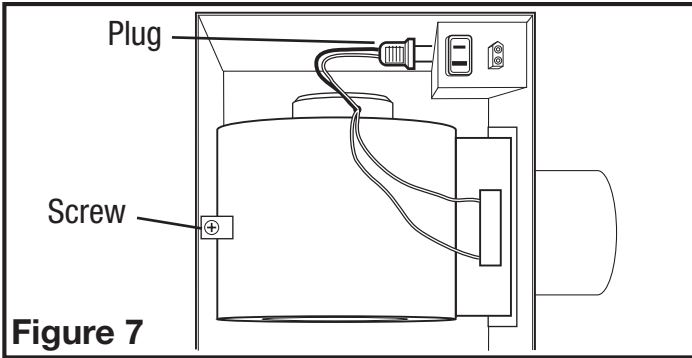
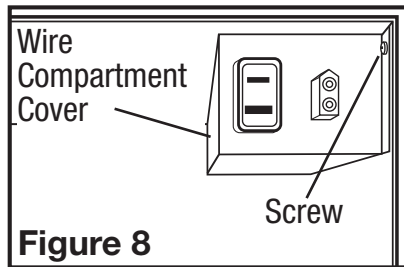

Figure 7
Figure 8
- 1b. **Internal Wire Compartment:** Remove the screw holding the blower assembly in place. Lift up on the assembly and tilt it at a 45° angle to remove from the housing (Figure 7). Remove the wire compartment cover screw and place the cover in a secure place (Figure 8).
- Insert the fan's plug into the receptacle (Figure 7).